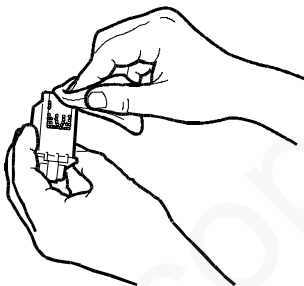

Fig. 7-1
- 2) Remove the print head and clean the electrical contacts using a dry cotton swab (see figure 7-1)